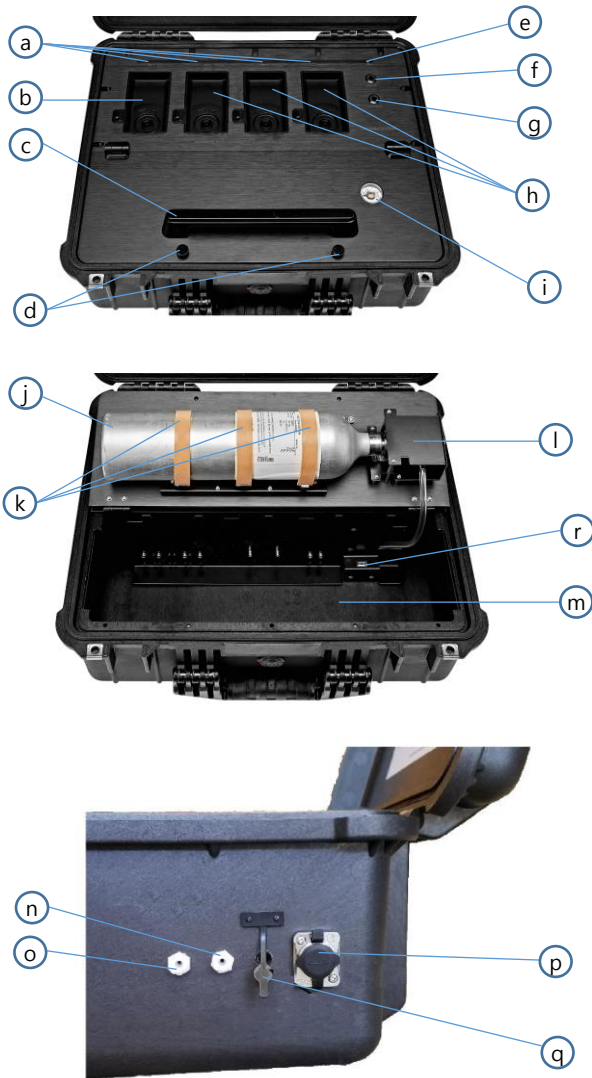

Figure 1
Each Bay has six blue LEDs (see Figure 1) which indicates the process status. Each of them will turn on by order from left to right while testing. After testing is finished, make sure all six bays are turned on otherwise, 3rd bay LED will be shown if test is failed.
**Note:** Refer to Figure 1 for charging location.
There are two small ports on the left side of the charging port (see Figure 1). The Fresh air inlet port will draw clean air in during an active test. The incoming air automatically counts as a fresh air (O2, 20.9%vol).